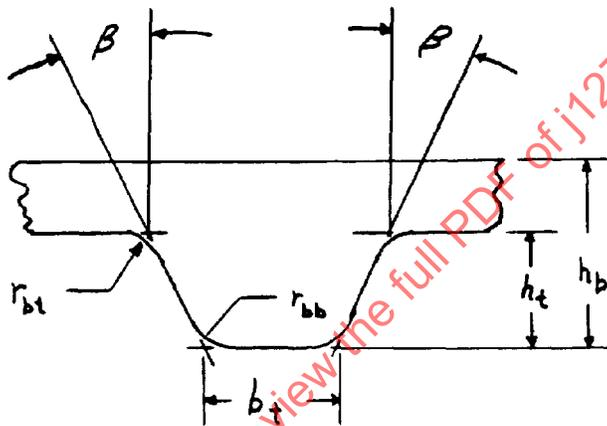

FIGURE 4—BELT SECTION
5.1 Dimensions—Nominal dimensions of the synchronous belt sections are shown in Table 3 and Figure 4.